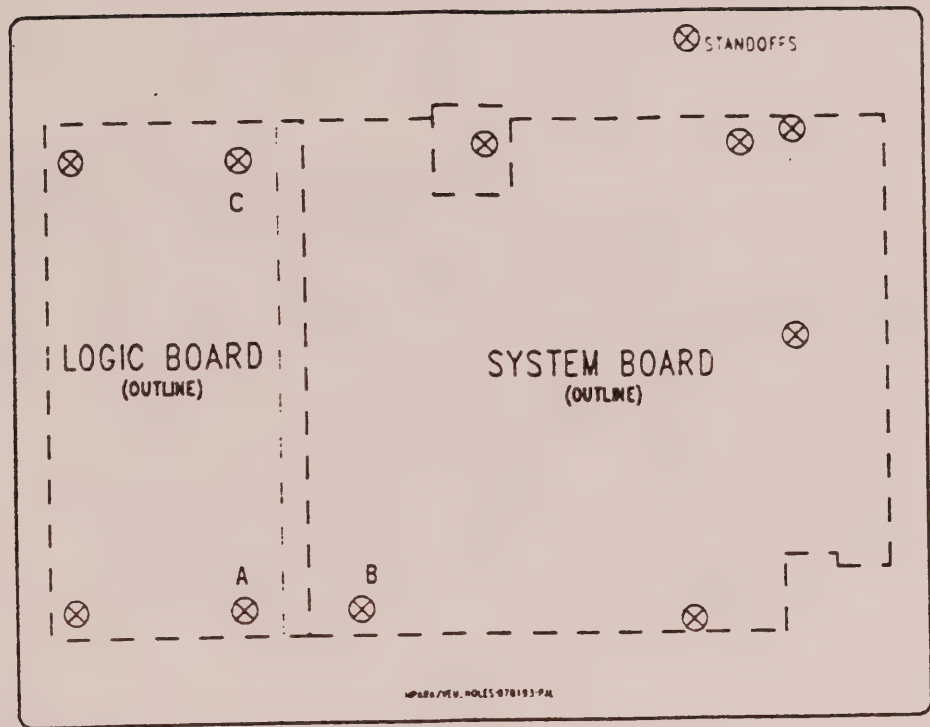

Figure 4-1. VEU Standoff Location
1. Refer to Figure 4-1. Move the tall standoff "A" to the location of short standoff "B". This will require removing standoff "B".